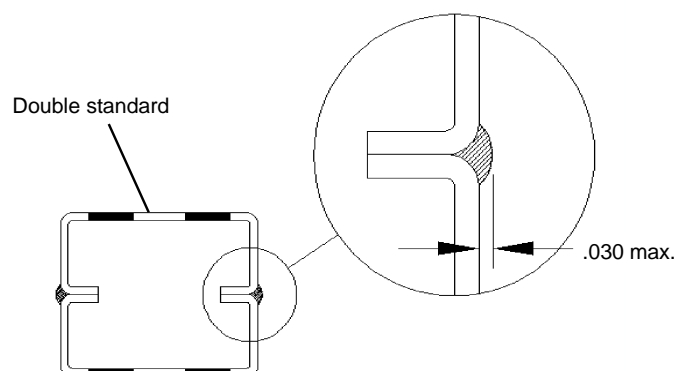

Figure 2
**Important:** For proper Tech Wall installation, the Mounting Channels must attach flat against the slotted standards. If a weld joining the two halves of the double standard exceeds a height of approximately .03"(.8mm), it may be necessary to carefully file the weld. See **Figure 2**.